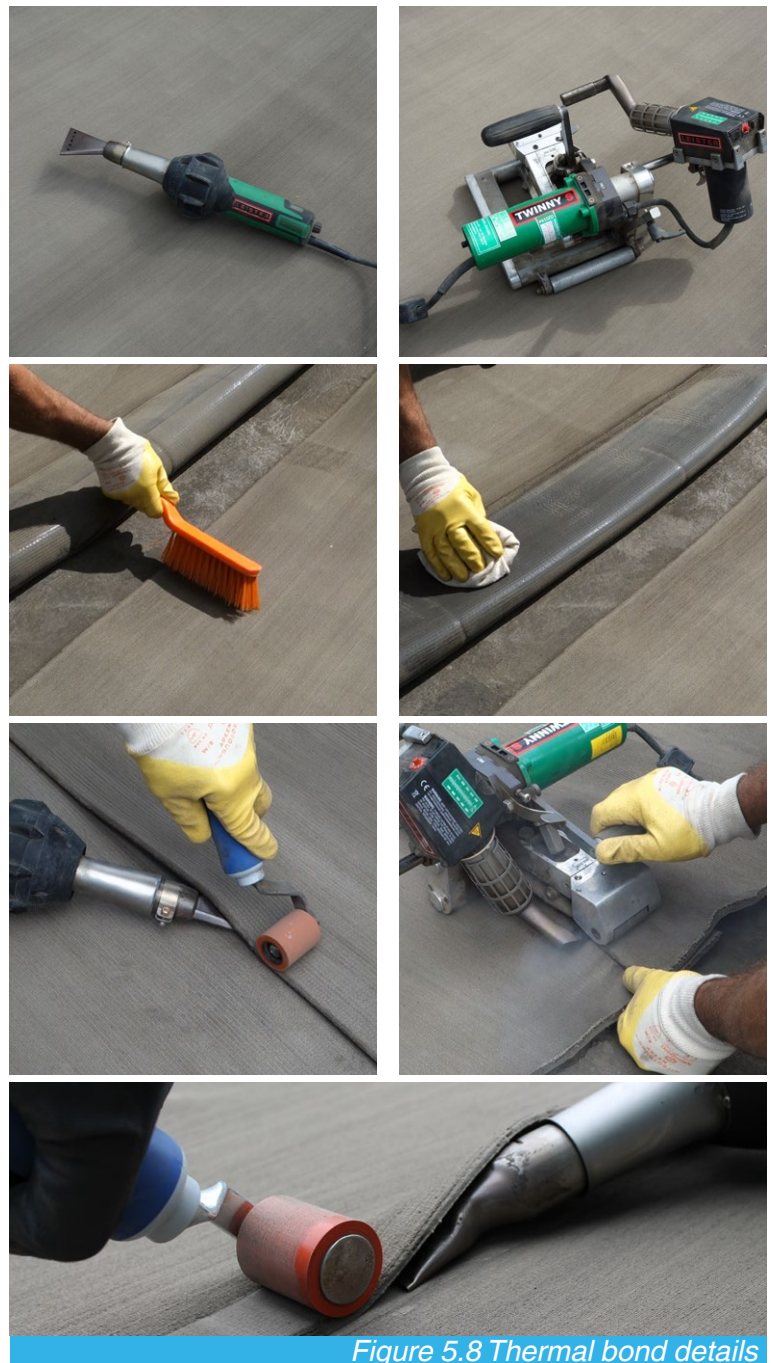

Figure 5.8 Thermal bond details
B) Bonding with a Hand-held heat gun: Once up to temperature, position the heat gun nozzle just inside the joint, with the nozzle perforations upper-most, directing the hot air onto PVC backing. Aim to bond the overlap along a strip nearest to the outside of the joint (see figure 5.8). Working your way from one end of the joint to the other, follow the welder with the 'Seam Roller' to apply pressure to the softened PVC and top fibres to form a bond. Weld rate is approximately 1m/min.